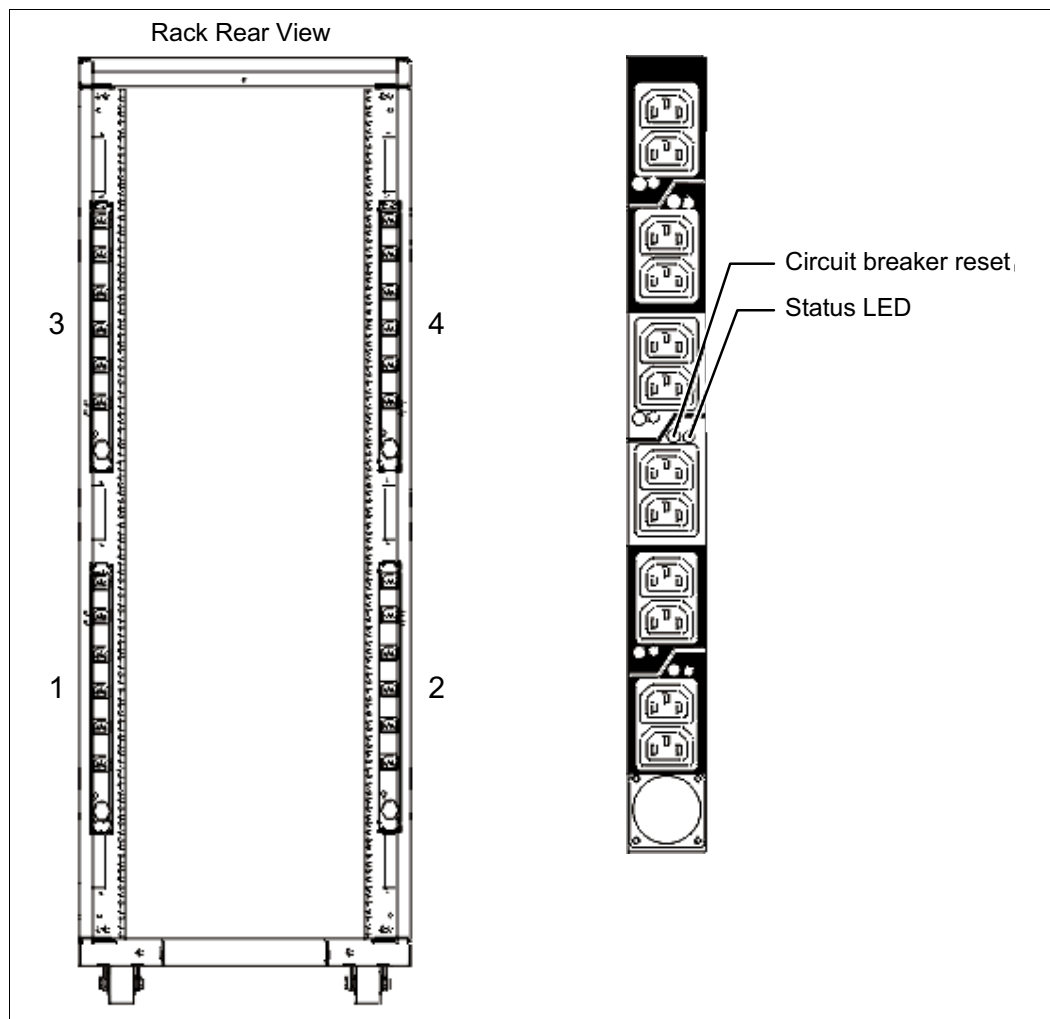

Figure 1-8 PDU placement and PDU view
- ▶ Up to four power distribution units (PDUs) can be mounted in the PDU bays (see Figure 1-8 on page 21), but others can fit inside the rack. For more information, see 1.10.7, "The AC power distribution unit and rack content" on page 21.
Four PDUs can be mounted vertically in the back of the T00 and T42 racks. Figure 1-8 shows the placement of the four vertically mounted PDUs. In the rear of the rack, two additional PDUs can be installed horizontally in the T00 rack and three in the T42 rack. The four vertical mounting locations are filled first in the T00 and T42 racks. Mounting PDUs horizontally consumes 1U per PDU and reduces the space that is available for other racked components. When mounting PDUs horizontally, the preferred approach is to use fillers in the EIA units that are occupied by these PDUs to facilitate proper air-flow and ventilation in the rack.